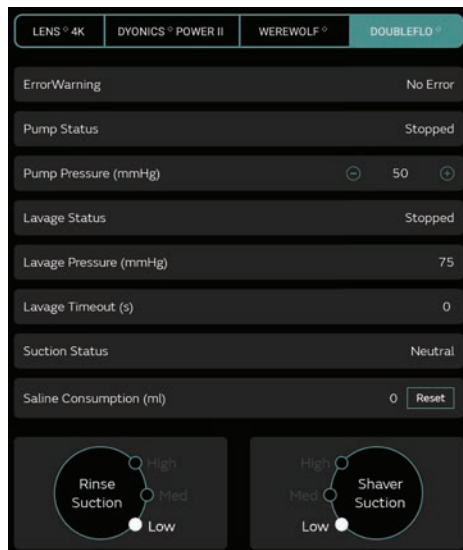

Figure 46. DOUBLEFLO Medical Device View
5. To select the DOUBLEFLO medical device view, tap on the >> arrows at the top (Figure 46).
The medical device view screen will appear. (Figure 46).